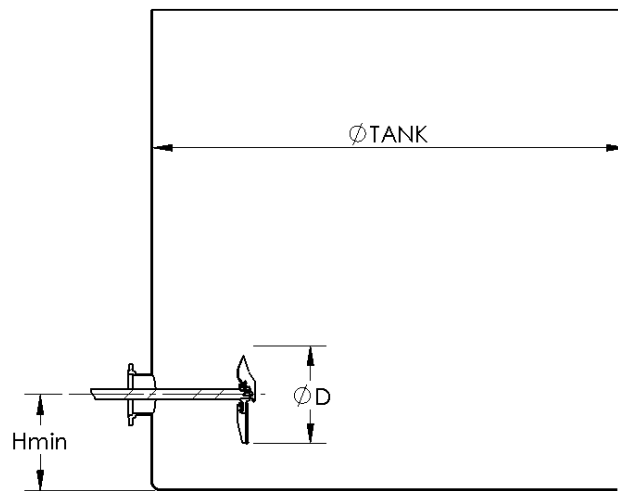
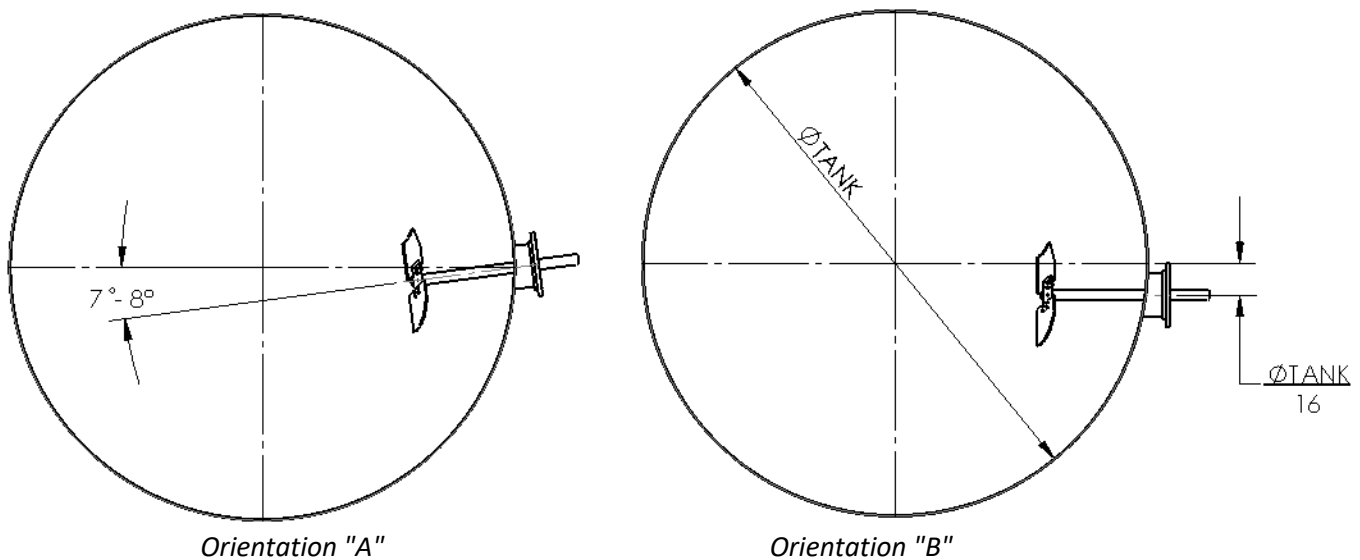

Figure 1: Tank Elevation View
Figure 2: Tank Plan View
Some tanks have floating roofs that float up and down with the fluid level in the tank. If this is the case, it is imperative that there be positive stops for the roof that keep the bottom of the roof or any roof supports a distance of at least 1.5x the impeller diameter (ϕD in Figure 1) above the shaft centerline to prevent the roof from accidentally contacting the mixer, and to maintain process performance.
Unless otherwise specified, the agitator nozzle should be oriented as shown in Figure 1 and Figure 2. The shaft centerline (H_{min}) should be located one (1) impeller diameter (ϕD) from the tank bottom, meaning $H_{min} = D$. The agitator nozzle should be level to within $\pm 1^\circ$.